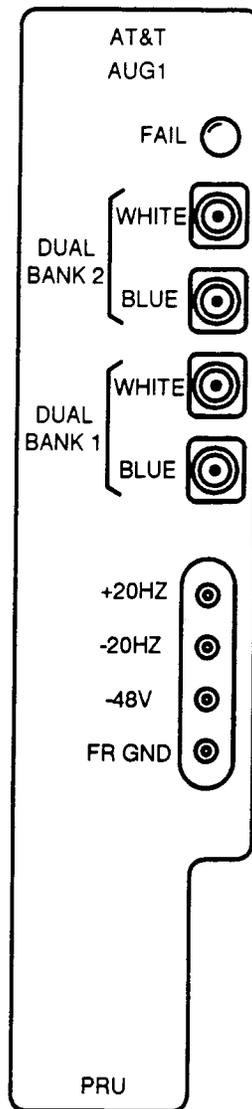

Figure 1 — AUG1 Positive Ring Unit
1. Get one **AUG1 PRU** (Figure 1) and inspect for possible physical damage.